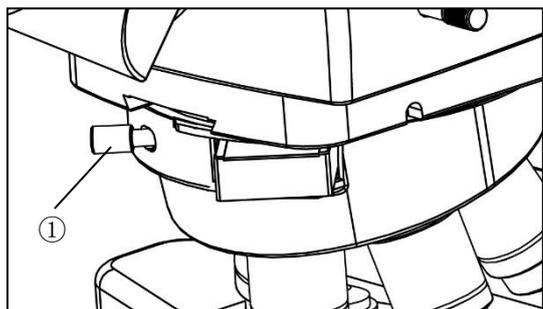

Fig.13
3-11 Use of extended feature boards (Fig.13)
As shown in Fig.13, a slot equipped with extended function board is reserved on the nosepiece. When the microscope lens is delivered, it is inserted into the slot with ordinary light and dark field board. If you want to use other extension function board, you just need to unscrew the serial number ① and loosen it, pull out the standard light and shade field board, and then insert the extension function board into the slot and tighten the screw of serial number ①.